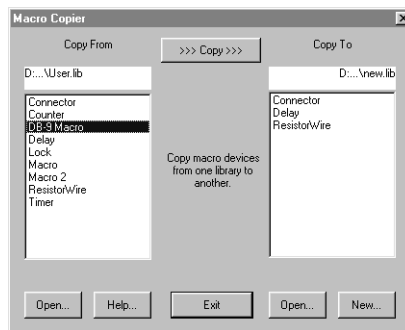

Figure 13.4. Use this dialog box to copy macros from one macro library to another.
- 1 Choose **Macros > Macro Copier** to display the dialog box pictured in Figure 13.4.